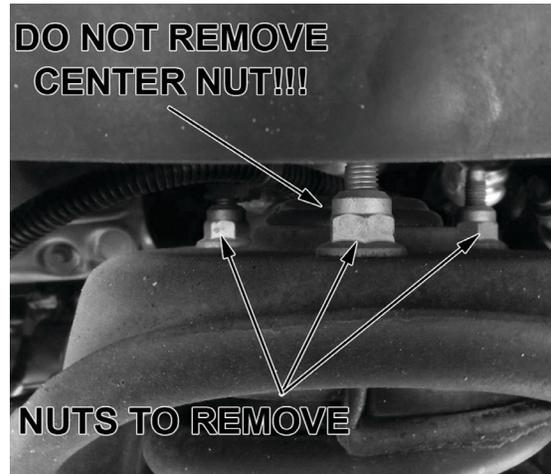

Fig. 1: Remove the three nuts. **DO NOT** remove the center nut.
4. Remove the (3) top nuts (Fig. 1) that secure the stock shock assembly to the vehicle. **DO NOT** remove center nut; doing so will release the spring.